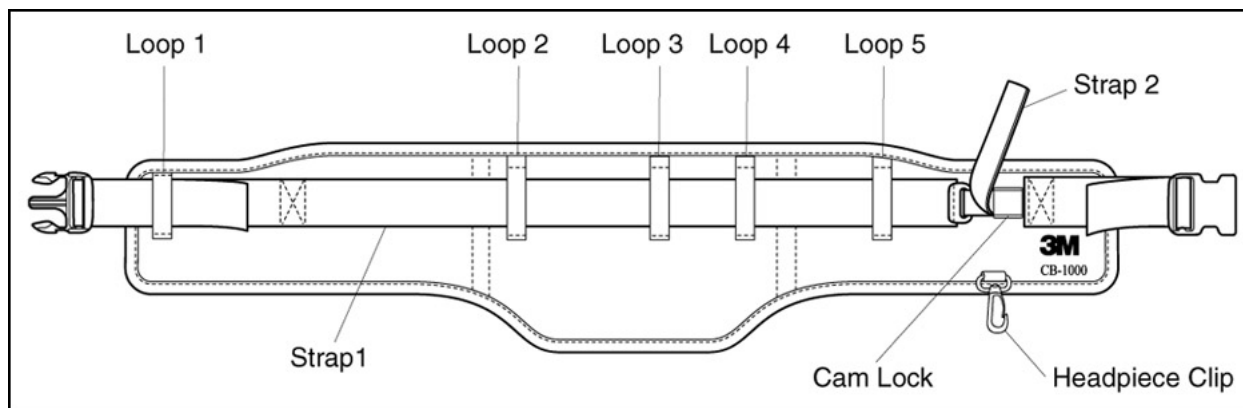

Fig. 7
1. Unlock the cam lock on Strap 2. (Fig.7)